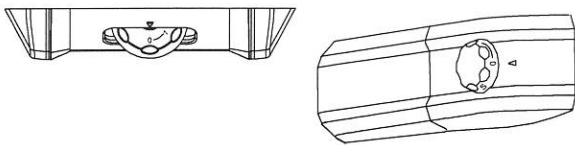

Fig.13
- 1) Rotate the knob to the „0“ position (fig.13)